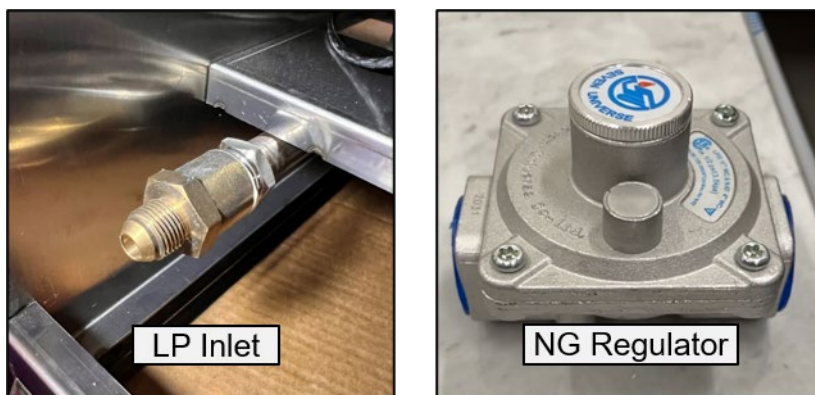

Figure 26 Gas Inlets
- LP gas inlet – straight brass fitting (Figure 26 left), 1/2" opening on one side, 3/8" on the other